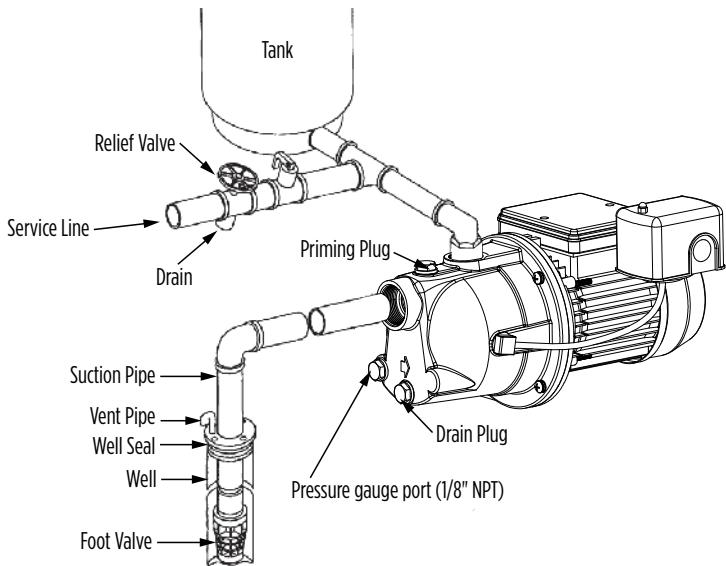
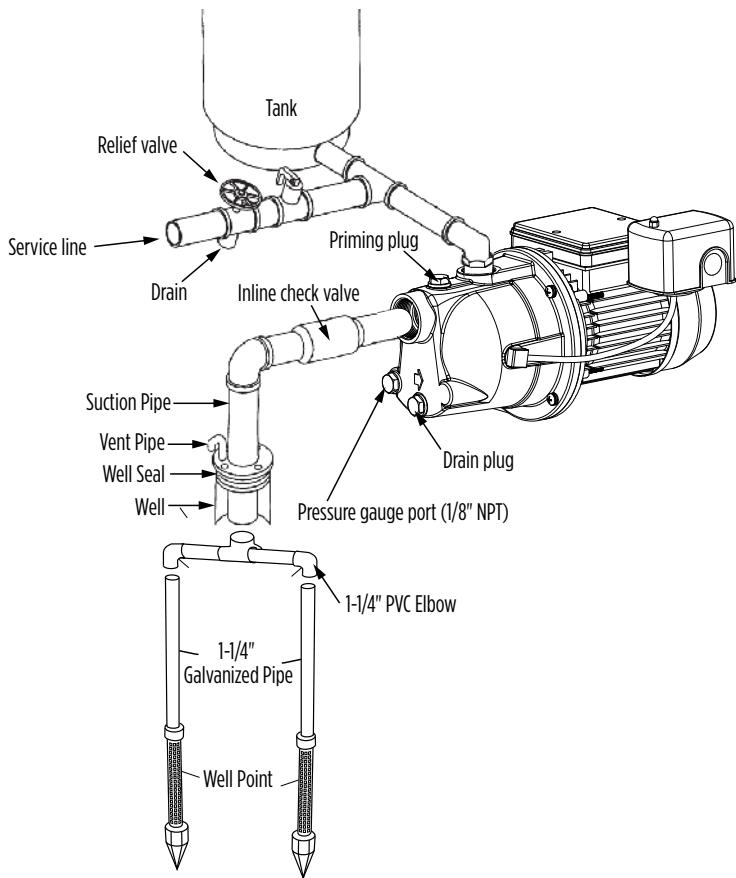

Figure 3 - SHALLOW WELL
Figure 5 - SHALLOW WELL
It is recommended that only new, clean 1-1/4" pipe or hose be used. If the pump is installed any appreciable distance away from the source of water, the suction pipe should be increased to 1-1/2". Horizontal lengths of pipe must gradually slope upward from the source of water to the pump to avoid air pockets in the line. Thread compound should be used on all pipe joints and connections should be thoroughly tightened. **A foot valve or check valve must be installed** and its operation should be checked since a leak will prevent proper operation of the system. Make sure the foot valve is located so that it will be submerged at all times. If a sandpoint or driven well is used, install a check valve next to the pump suction instead of the foot valve (see **Typical Installations** Figure 5). All installations must have a foot valve or a check valve in the suction pipe.
11. A pressure gauge is not supplied with the pump. It should be installed into the 1/8" NPT hole on the front of the casing on the opposite side of the pressure switch (see **Typical Installations Figures 3, 4, 5, or 6**).
Shallow well installations use only a single pipe connecting the pump to the water supply. This pump can be used for drilled wells (see Figures 3, 4 or 6) or driven wells (see Figure 5). Drilled wells are holes drilled into the ground by professional well drillers using a large rig. Driven wells use well points (also known as sand points), which is a long pointed tube with a screen that allows water to enter the pipe but keeps out sand and sediment. The water level in a driven well is fairly high or near ground level (maximum 30 ft [9.1 m]). Continue with the appropriate shallow well installation.
7. A pressure gauge is not supplied with the pump. It should be installed into the 1/8" NPT hole on the front of the casing on the opposite side of the pressure switch (see **Typical Installations** Figures 3, 4 or 6).
1. Drive the well point into the ground according to the instructions that come with the well point. It must be deep enough to bore through the water bearing formation below the water table but should not exceed 25 ft (7.6 m) in depth. An individual well point may not supply the amount of water needed. Sometimes it is necessary to use more than one well point to increase the water supply. The two separate well points can be jointed together using additional piping and a cross joint (see Figure 5).
8. A pressure gauge is not supplied with the pump. It should be installed into the 1/8" NPT hole on the front of the casing on the opposite side of the pressure switch (see **Typical Installations** Figure 5).